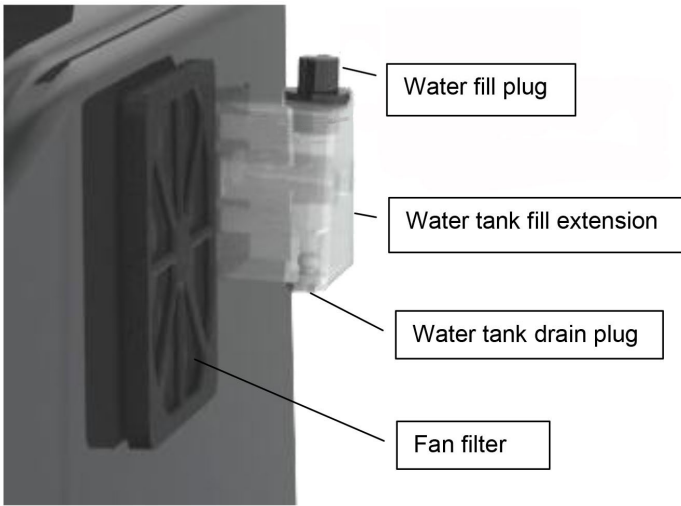

Figure 9: Tank Fill Extension
7. Fill the water tank. Remove the black plug on the clear plastic tank fill extension located on the back right of the VSA. (Figure 9). Fill the tank with United States Pharmacopeia (USP) purified water until full to top. Reinstall the black plug once finished. The black plug should be hand tightened only.
8. Figure 9 shows the location of a filter that you must remove and blow out from time to time when dust builds up on it. The housing around the filter is a snap on housing that you